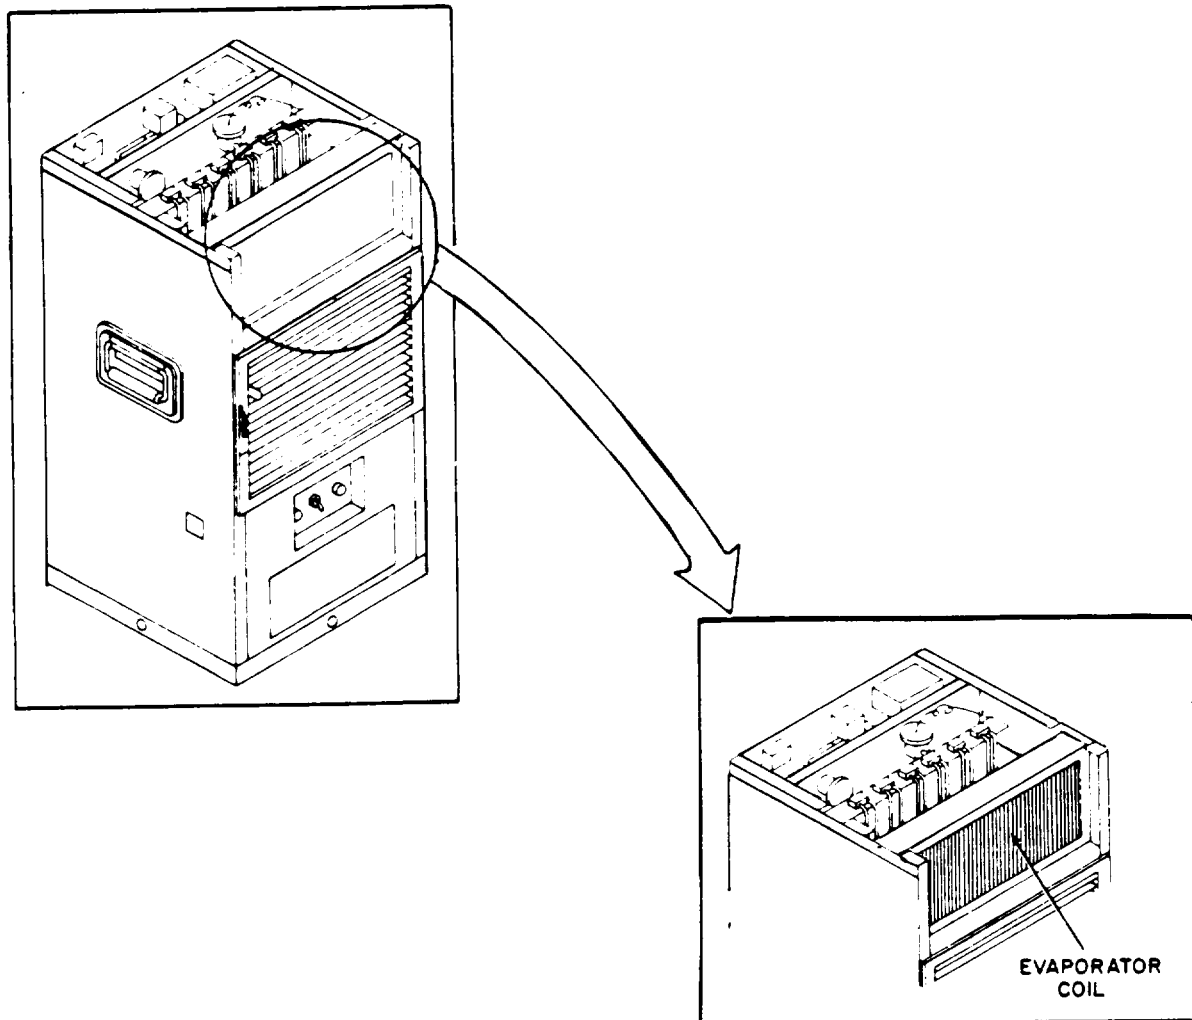

Figure 4-39. Evaporator Coil.
- a. **INSPECTION.** See Figures 4-39 and 440.